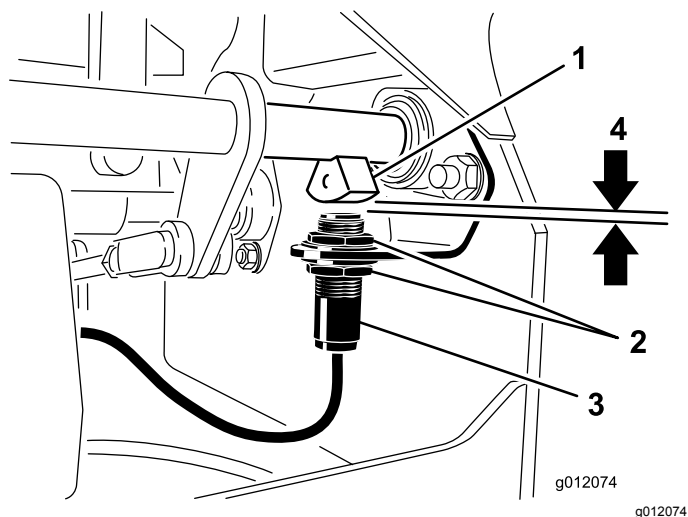

Figure 77
4. Move the switch up or down on the bracket until the distance between the brake-shaft sensor and the switch plunger is 3.9 mm (5/32 inch) as shown in Figure 77.